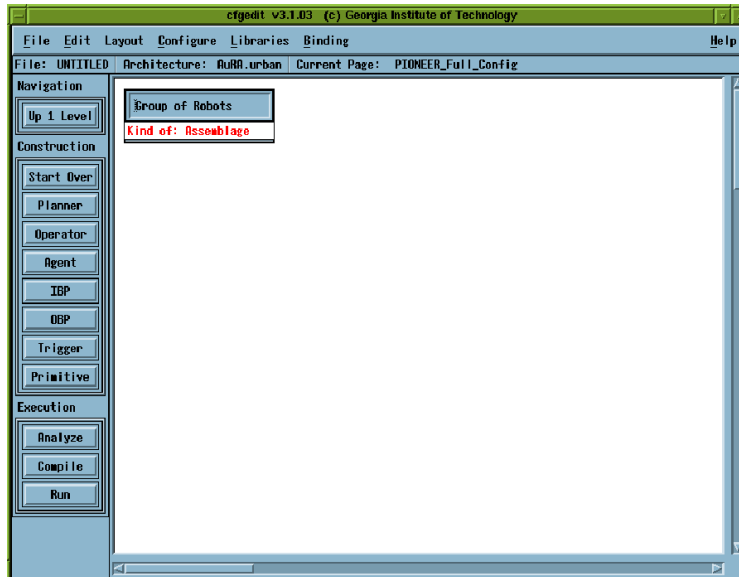

Figure 4: *CfgEdit* - the top level
- Choosing “New Robot” from the first selection. If your *MissionLab* was installed without the CBR Mission Planning Wizard functionality (Mission Expert), *CfgEdit* will show the top level of the configuration as shown in Figure 4. If Mission Expert is installed, *CfgEdit* asks you whether to use it. Select “No” to the question, and you will see the top level of the configuration.